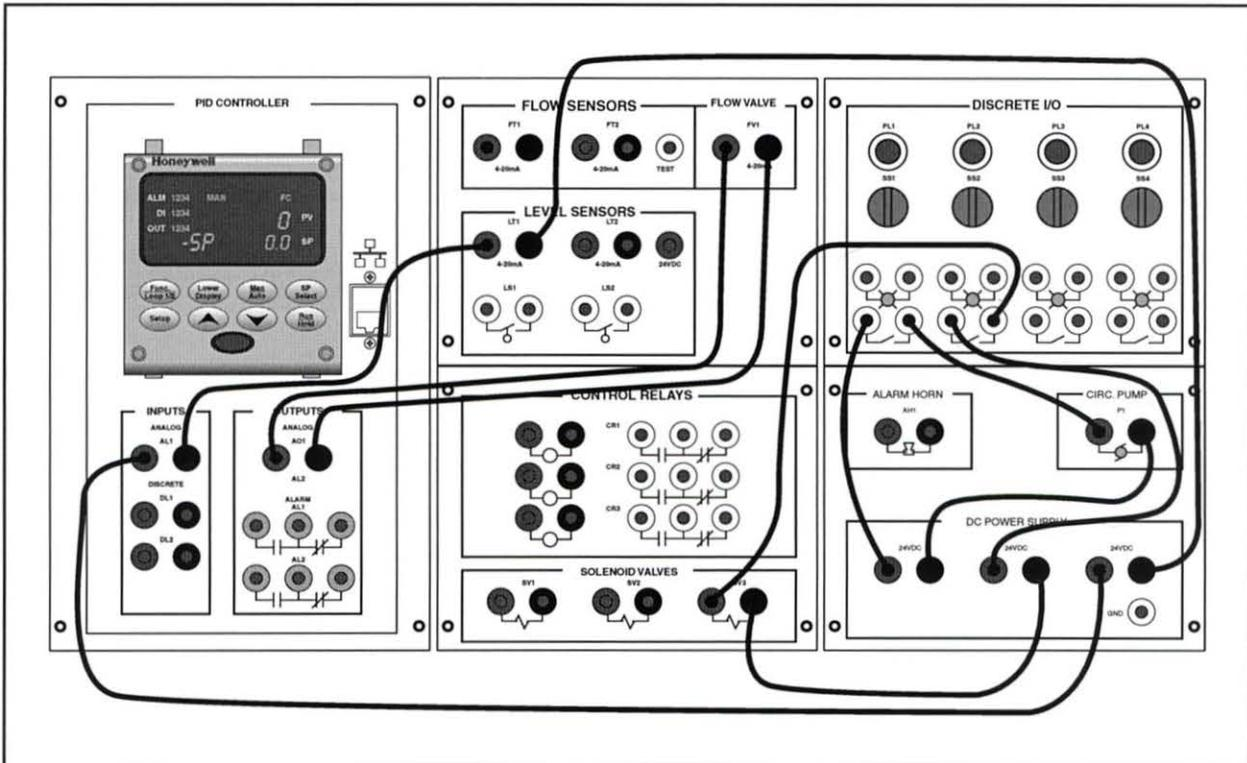

Figure 75. Connections for Closed Loop Level Control
- E. Make sure the circuit is still connected as shown in figure 75. If it is not, reconnect it.